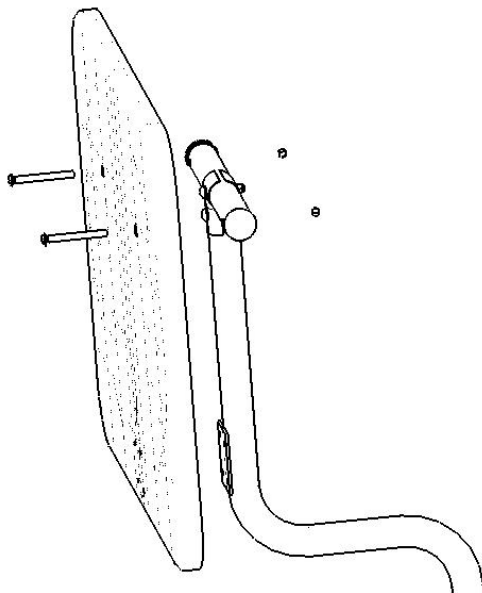

FIGURE 3
2. Align the two holes in the top of the backboard with the holes in the horizontal support tube as shown in **FIGURE 3**. Insert the 5/16" x 4" carriage bolts into each hole in the backboard and through the horizontal support tube. Thread a hex nut onto the end of the carriage bolt that passes through the backside of the horizontal support tube. Do not tighten the hex nuts all the way down at this point.